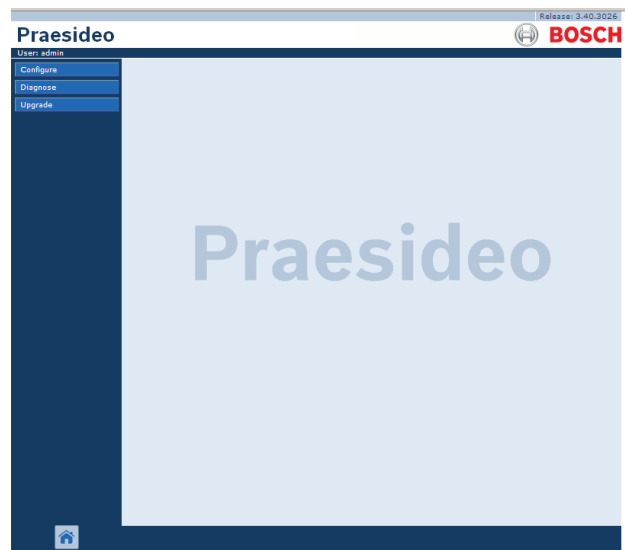

figure 40.3: Web interface elements
- 5 Enter the user name in the *User Name* field, enter the password in the *Password* field and click *OK* to open the web interface. A screen similar to the one in figure 40.3 appears.
The web interface (see figure 40.3) contains the following elements: